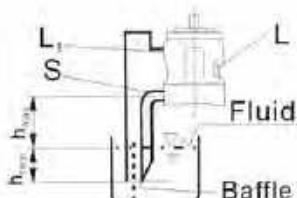

Fig. 2
- b) If the minimum fluid level is below the pump mounting face pipe port "L1" and "S" according to Fig. 2. Close port "L1" with respect taking into consideration conditions in 1.2.1.
Before installation fill the pump housing, keeping it in a horizontal position. For mounting above reservoir see Fig. 2.